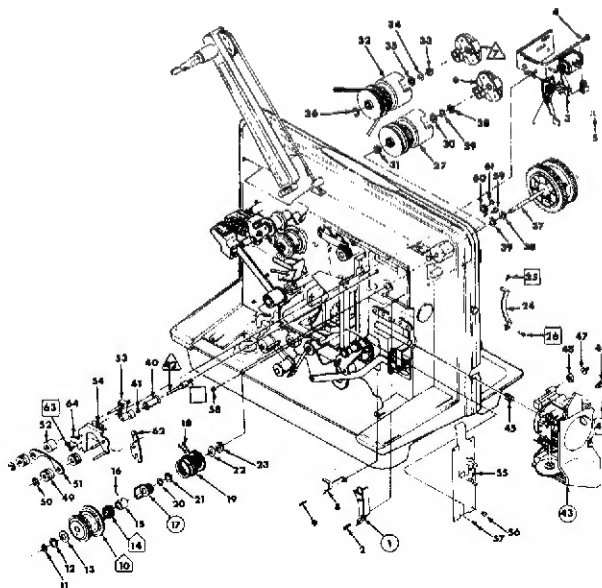

Figure 4
The tail of the Clutch Spring (6) is permanently trapped in a notch (N) in the Clutch Gear (14). The coil of the spring wraps around the arbor of the Clutched Gear (3). When the projector runs in any forward mode, the clutch gear rotates in a clockwise direction (as viewed from the back of the projector) pushing the tail of the spring to clamp it tightly around the arbor so the Clutched Gear (3) is directly driven by the clutch gear through the clamping action of the spring. The drive of the worm gear on the main shaft is thus directly connected to the Rewind and Fast Forward clutches (Figure 4, 27 & 32) through the clutch gear (14), clutch spring (6) and clutched gear (3).
FAST FORWARD (Figure 4)